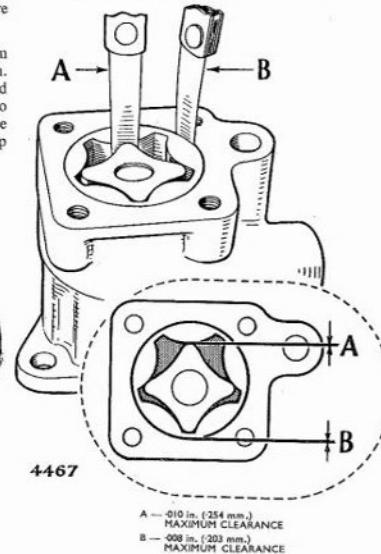

Fig. B.132. Checking side clearances of the oil pump rotor and ring
- (b) Side clearance between the tip of the lobes on the inner rotor and the outer ring, as shown at "A", in Fig. B.132, must not exceed a maximum figure of .010 in. (.254 mm.). New components should be fitted if this clearance is exceeded.
- (c) Outer driven ring clearance in the pump body, as shown at "B", in Fig. B.132, should not exceed .008 in. (.203 mm.). If the clearance is found to be in excess of the stated maximum figure, the external diameter of the outer driven ring, also the bore diameter in the pump body should be checked for wear (see "Manufacturing Data"). Any components found outside the designed dimensions, should be renewed.